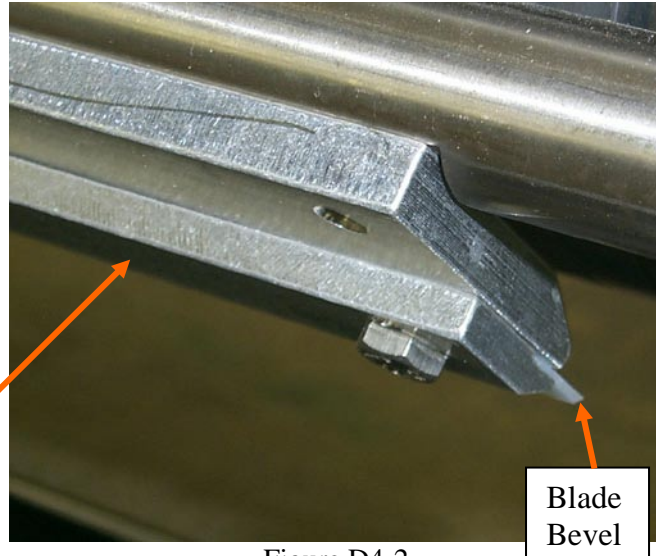

Figure D4-2
4. Check to see that the doctor blade is installed properly, and that its leading edge is oriented correctly (bevel down, facing the Inkwell pan – Figure D4-2).
3. Check for worn doctor blade, and that the bevel on the blade is oriented properly (See Figure D4-2).